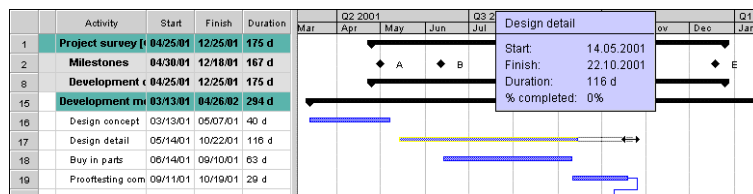

Figure 28: The shifted bar; changing the activity duration by dragging at the end of the bar.
1. Position the mouse cursor to the end of the schedule bar. The cursor shape changes to that of an arrow (Figure 28).